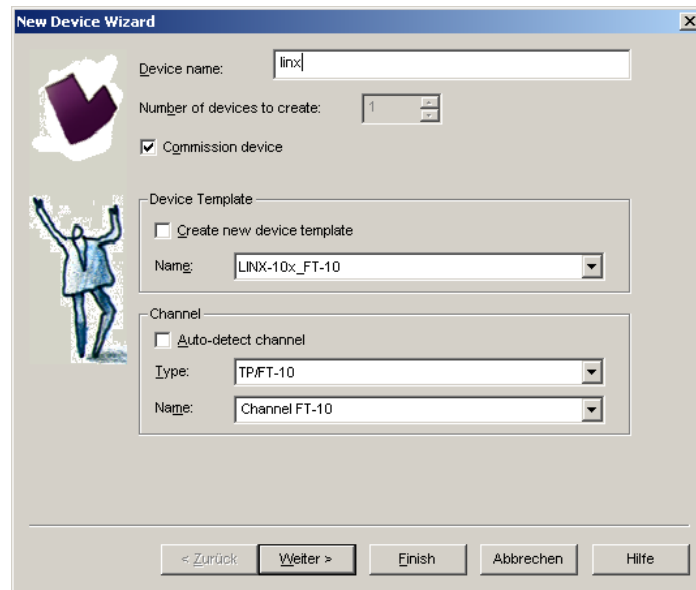

Figure 65: Create a new device in the drawing.
1. In your LonMaker drawing, drag a device stencil into the drawing. Enter an appropriate name as shown in Figure 65.